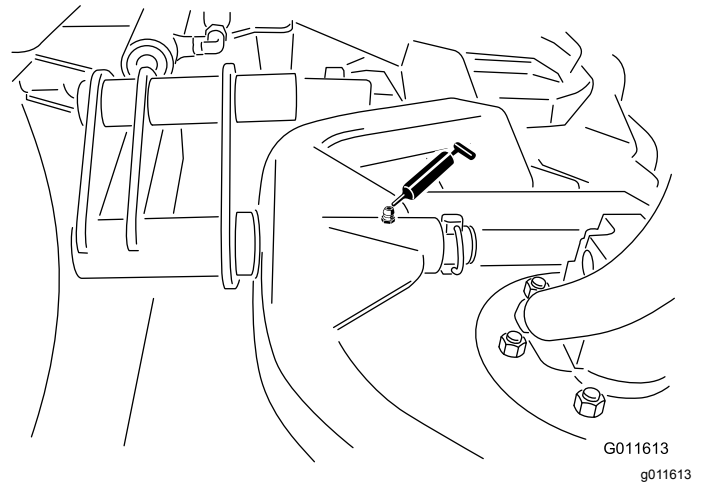

Figure 60
- Cutting unit carrier-frame pivot (1 each)—Figure 60